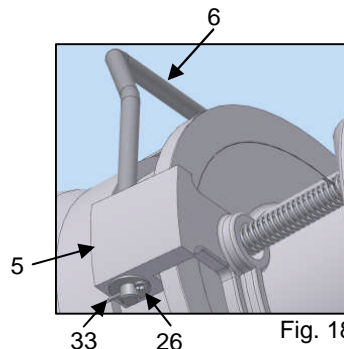

Fig. 18
18. Remove Cotter Pins (33) (discard) and washers (26) from either side of Coupler. (See Fig. 18)
19. Pull Retractor Handle (6) out of Retractor Bale (5). (See Fig. 18)